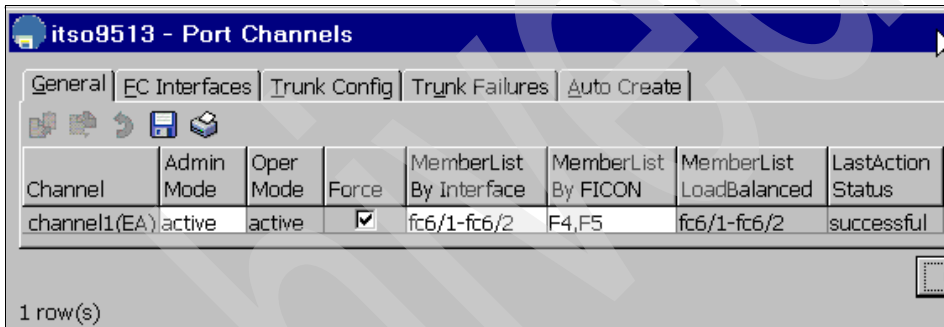

Figure 42 9513 Port Channel verification
- In DM, to verify the PortChannel operation, select the **Interface** → **Port Channels** on the 9513 (Figure 42).